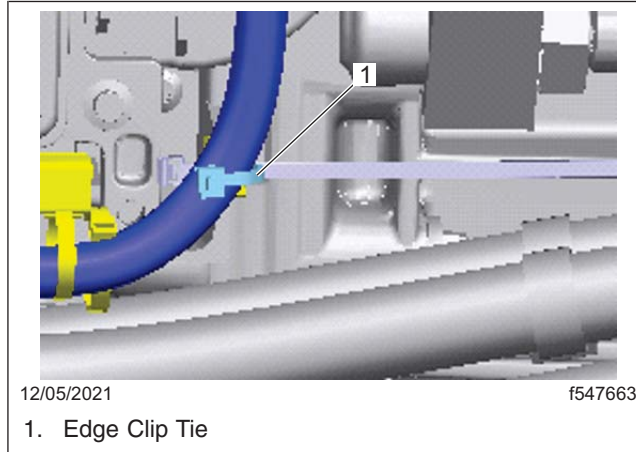

Fig. 6, Attaching the Harness at the Rear of the TCU with an Edge Clip Tie
- 5.4 Using an edge clip tie and clamp, secure the harness on the lower tab at the rear of the TCU. See **Fig. 6**.